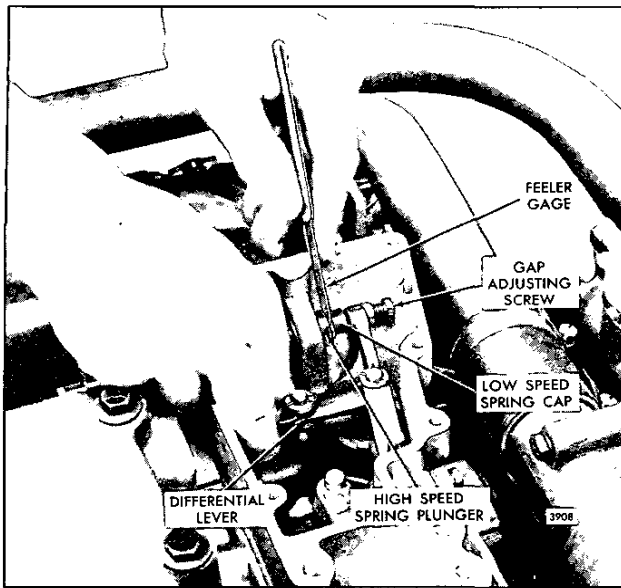

Fig. 12 – Checking Governor Gap
6. Check the gap between the low-speed spring cap and the high-speed spring plunger with a feeler gage (Fig. 12). The gap should be .002"–.004". If the gap setting is incorrect, reset the gap adjusting screw.